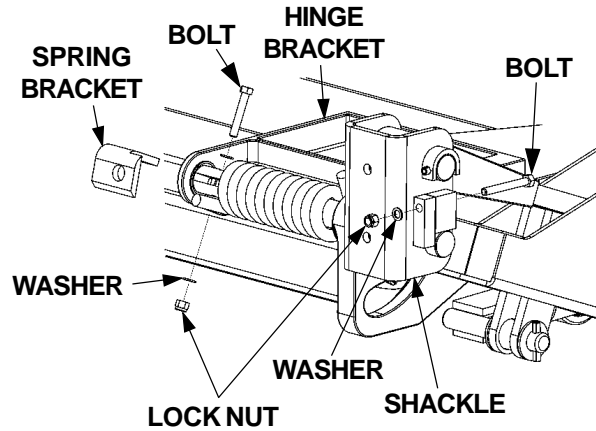
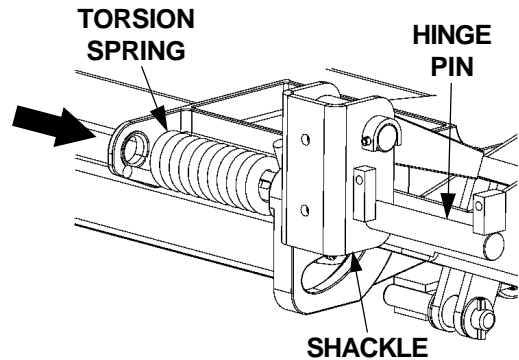

FIG. 14-1
FIG. 14-2
4. Unbolt Hinge Pin from Shackle and Spring Bracket (**FIG. 14-1**). Remove bolts, washers, and lock nuts. Drive the Hinge Pin outboard toward the Shackle just enough to free the torsion spring (**FIG. 14-2**). Remove the Torsion Spring.
6. Drive the Hinge Pin into correct position through the Hinge Bracket as shown in **FIG. 14-3**. Line up the bolt hole in the Hinge Pin with the hole in the Shackle and Spring Bracket. Bolt the Hinge Pin to Hinge Bracket and Spring Bracket with bolts, washers, lock nuts (**FIG. 14-2**). Torque the 3/8"-16 Spring Pin bolt and 3/8"-16 Spring Bracket bolt **35 to 52 LBS.-FT.**